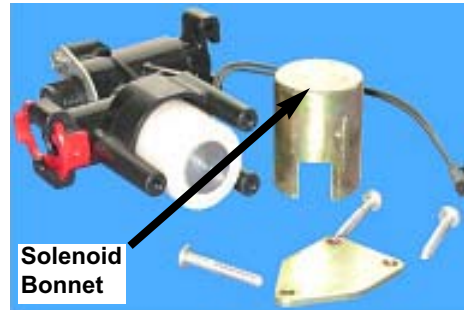

Figure 17
- 1.6 Remove Solenoid Bonnet and pull solenoid assembly from Valve Body (see Figure 17 and 18).